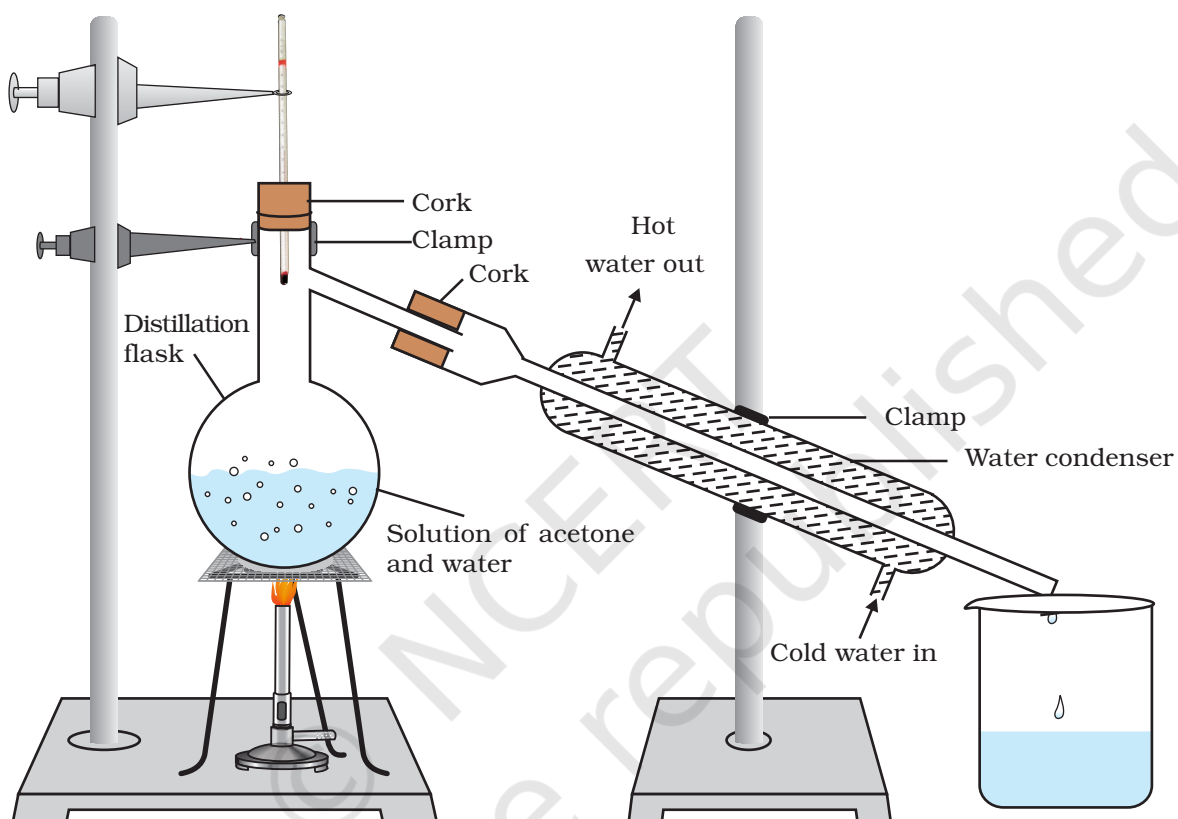

Fig. 15.1 : Laboratory apparatus for distillation
2. Arrange the apparatus as shown in the Fig. 15.1.